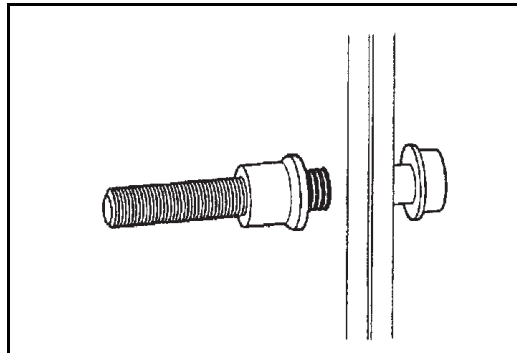

Figure 2.9 Place Collar Over
2. Place the collar over the fastener pintail (See Figure 2.9)